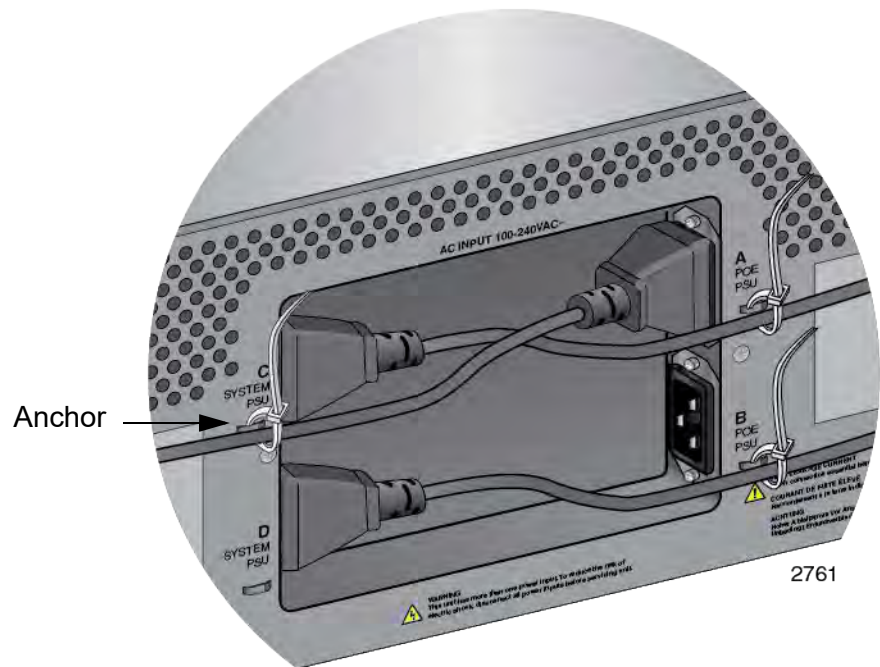

Figure 123. Securing the Power Cord for the AT-SBxPWRPOE1 Power Supply to an Anchor
3. Use the twist tie that comes with the power supply to secure the cord to an anchor on the chassis, as shown in Figure 123.